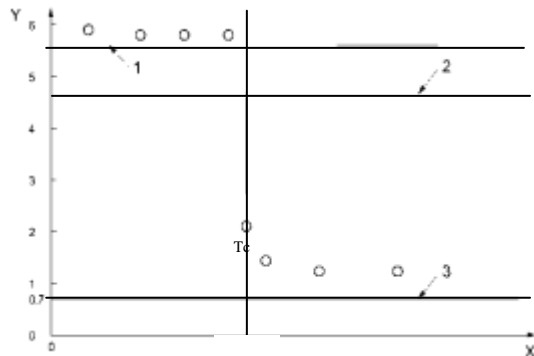

Figure 4. Typical graph of the RCP test at constant pressure.
b) **The critical temperature:** it is obtained by carrying out a series of tests at constant pressure and varying the temperature. At low temperatures (sub-zero range for HDPE), the material is brittle enough to resist crack propagation. At higher temperatures the crack stops and hardly propagates beyond the impact length given by the blade. The point T_c of Figure 4 indicates the critical temperature at which the crack length induced by the impact of the blade stops propagating (stops) due to the effect of the increase in temperature, observing a transition that defines this value.